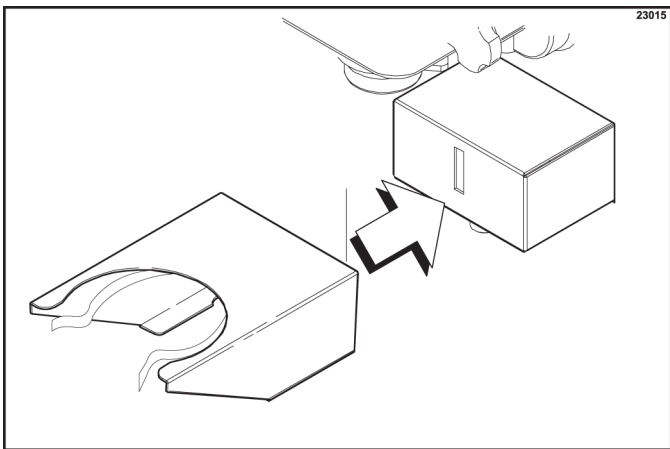

Figure 6-40
3. Install the shake cup holder. (See Figure 6-40.)